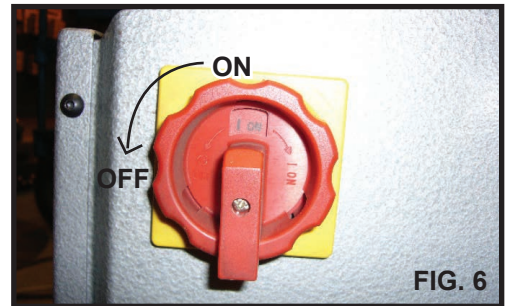

FIG. 6
2. Before connecting the machine to the power supply, be sure the switch is in the “Off” position (See Fig. 6).